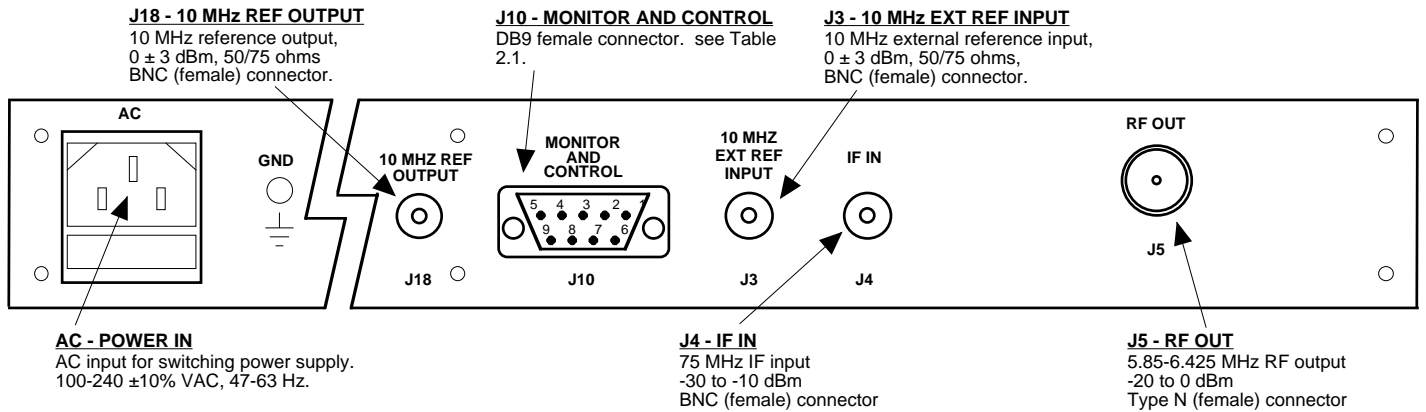

FIGURE 2.2 2015-60 Rear Panel Inputs and Outputs
2.2 Rear Panel Input / Output Signals - Figure 2.2 shows the input and output connectors on the rear panel.
1. Connect a -30 dBm to -10 dBm, 70MHz signal to IF IN, J4 (Figure 2.2)
Alarm indications appear on the LEDs (see figure 2.2).